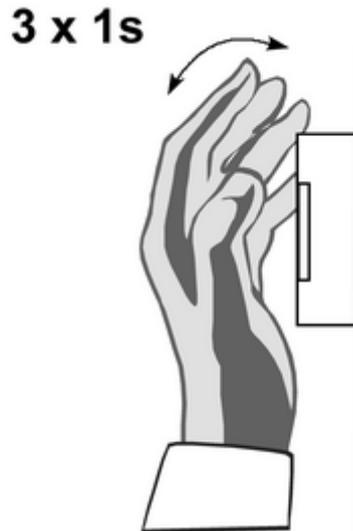

Figure 6: Activating the Teach function
- Activating the Teach function: completely cover the motion detector three times within 9 seconds (Figure 6).